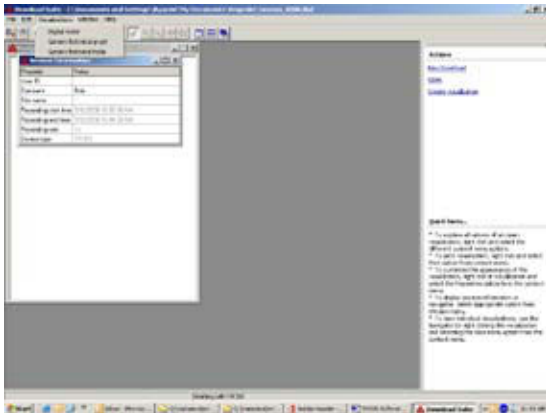

Figure 3
8. Click on "Visualizations" to select digital meter, generic historical graph, or generic historical table.(See Fig.3)